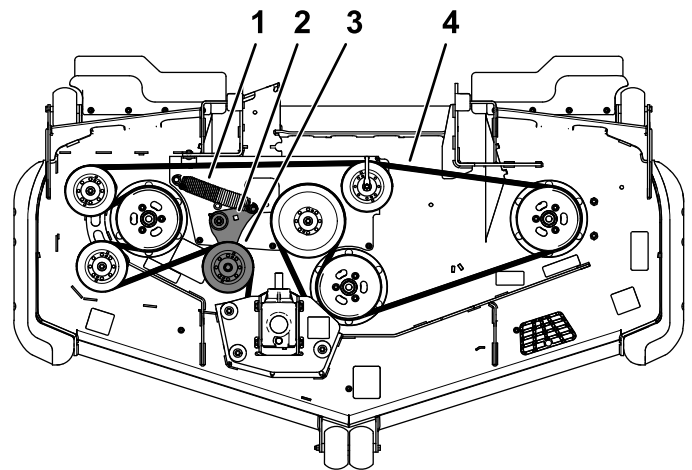

Figure 55
5. Use a ratchet in the square hole in the idler arm to remove tension on the idler spring (Figure 55).
7. Install the new belt around the mower pulleys (Figure 55).
square hole, install the belt around the idler pulley (Figure 55).